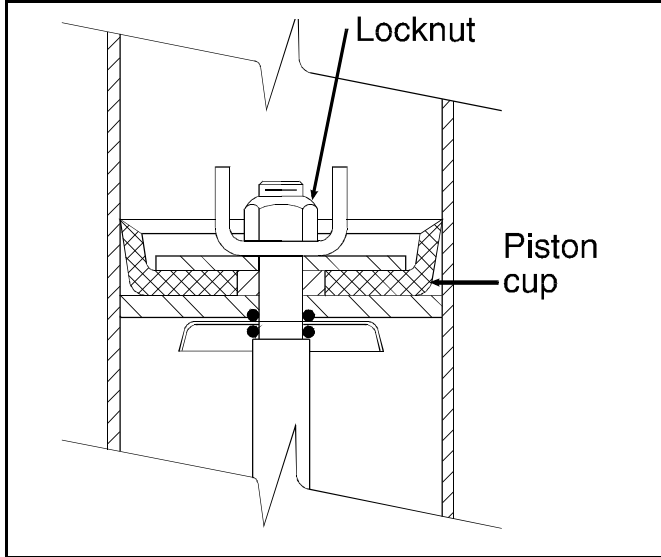
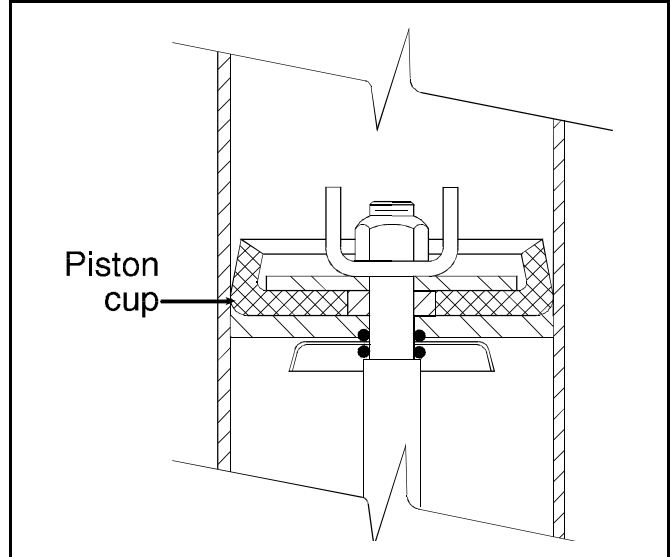

FIGURE 2 (MSSM0130AE)
FIGURE 3 (MSSM0130AE)
5. Note position and orientation of piston cup(s), washers, and springs. Replace worn parts, then reassemble in reverse order. Tighten locknut until it is just barely possible to turn the piston cup and washer assembly on the stem. Correct piston cup shape is shown in FIGURE 2. **DO NOT** overtighten, as this causes the piston cup to deform to the shape shown in FIGURE 3 and may cause piston to bind in cylinder.